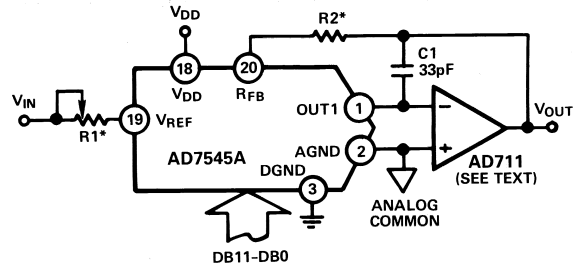
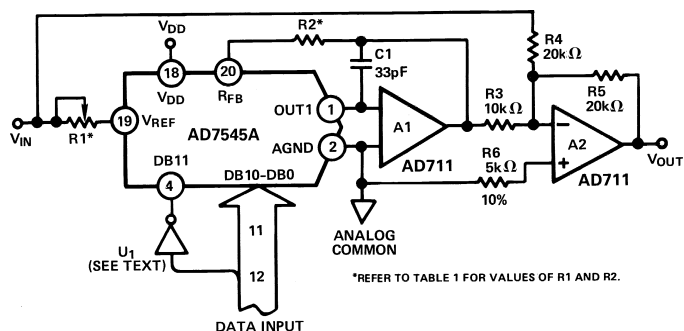
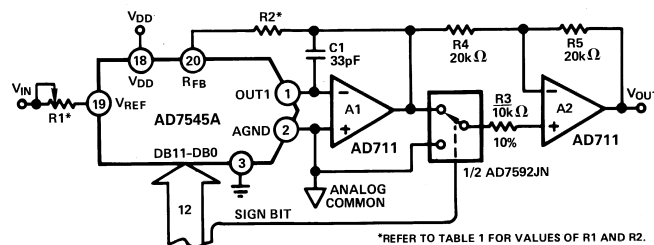
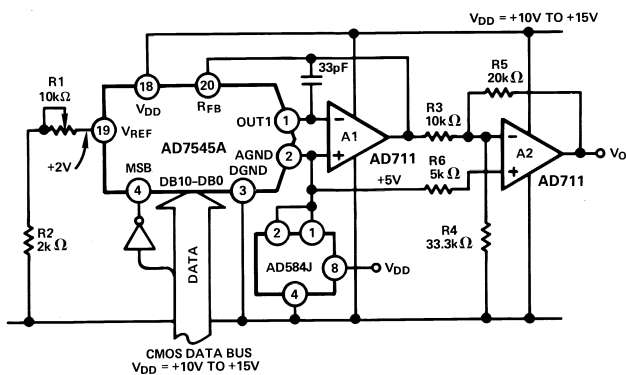

Figure 4. Unipolar Binary Operation
Figure 5. Bipolar Operation (Twos Complement Code)
Figure 6. 12-Bit Plus Sign Magnitude Converter
Figure 10. Single Supply "Bipolar" 2s Complement D/A Converter
Figures 4 and 5 show simple unipolar and bipolar circuits using the AD7545A. Resistor R1 is used to trim for full scale. The L, C, U grades have a guaranteed maximum gain error of  $\pm 1$  LSB at  $+25^\circ\text{C}$ , and in many applications it should be possible to dispense with gain trim resistors altogether. Capacitor C1 provides phase compensation and helps prevent overshoot and ringing when using high speed op amps. Note that all the circuits of Figures 4, 5 and 6 have constant input impedance at the  $V_{REF}$  terminal.
The circuit of Figure 4 can either be used as a fixed reference D/A converter so that it provides an analog output voltage in the range 0 to  $-V_{IN}$  (note the inversion introduced by the op amp) or  $V_{IN}$  can be an ac signal in which case the circuit behaves as an attenuator (2-Quadrant Multiplier).  $V_{IN}$  can be any voltage in the range  $-20 \leq V_{IN} \leq +20$  volts (provided the op amp can handle such voltages) since  $V_{REF}$  is permitted to exceed  $V_{DD}$ . Table II shows the code relationship for the circuit of Figure 4.
Table II. Unipolar Binary Code Table for Circuit of Figure 4
Figure 5 and Table III illustrate the recommended circuit and code relationship for bipolar operation. The D/A function itself uses offset binary code and inverter U1 on the MSB line converts two's complement input code to offset binary code. If appropriate, inversion of the MSB may be done in software using an exclusive -OR instruction and the inverter omitted. R3, R4 and R5 must be selected to match within 0.01%, and they should be the same type of resistor (preferably wire-wound or metal foil), so that their temperature coefficients match. Mismatch of R3 value to R4 causes both offset and full-scale error. Mismatch of R5 to R4 and R3 causes full-scale error.
Table III. Twos Complement Code Table for Circuit of Figure 5
Figure 6 and Table IV show an alternative method of achieving bipolar output. The circuit operates with sign plus magnitude code and has the advantage that it gives 12-bit resolution in each quadrant compared with 11-bit resolution per quadrant for the circuit of Figure 5. The AD7592 is a fully protected CMOS change-over switch with data latches. R4 and R5 should match each other to 0.01% to maintain the accuracy of the D/A converter. Mismatch between R4 and R5 introduces a gain error. Refer to Reference 1 (supplemental application material) for additional information on these circuits.
Table IV. 12-Bit Plus Sign Magnitude Code Table for Circuit of Figure 6
**Output Offset:** CMOS D/A converters such as Figures 4, 5 and 6 exhibit a code dependent output resistance which, in turn, can cause a code dependent error voltage at the output of the amplifier. The maximum amplitude of this error, which adds to the D/A converter nonlinearity, depends on VOS, where VOS is the amplifier input offset voltage. To maintain specified accuracy with VREF at 10 V, it is recommended that VOS be no greater than 0.25 mV, or (25 × 10-6) (VREF), over the temperature range of operation. Suitable op amps are AD517 and AD711. The AD517 is best suited for fixed reference applications with low bandwidth requirements: it has extremely low offset (150 μV max for lowest grade) and in most applications will not require an offset trim. The AD711 has a much wider bandwidth and higher slew rate and is recommended for multiplying and other applications requiring fast settling. An offset trim on the AD711 may be necessary in some circuits.
**Temperature Coefficients:** The gain temperature coefficient of the AD7545A has a maximum value of 5 ppm/°C and a typical value of 2 ppm/°C. This corresponds to worst case gain shifts of 2 LSBs and 0.8 LSBs respectively over a 100°C temperature range. When trim resistors R1 and R2 (such as in Figure 4) are used to adjust full-scale range, the temperature coefficient of R1 and R2 should also be taken into account. The reader is referred to Analog Devices Application Note "Gain Error and Gain Temperature Coefficient to CMOS Multiplying DACs," Publication Number E630c-5-3/86.
The circuits of Figures 4, 5 and 6 can all be converted to single supply operation by biasing AGND to some voltage between  $V_{DD}$  and DGND. Figure 10 shows the 2s Complement Bipolar circuit of Figure 5 modified to give a range from +2 V to +8 V about a "pseudo-analog ground" of 5 V. This voltage range would allow operation from a single  $V_{DD}$  of +10 V to +15 V. The AD584 pin-programmable reference fixes AGND at +5 V.  $V_{IN}$  is set at +2 V by means of the series resistors R1 and R2.